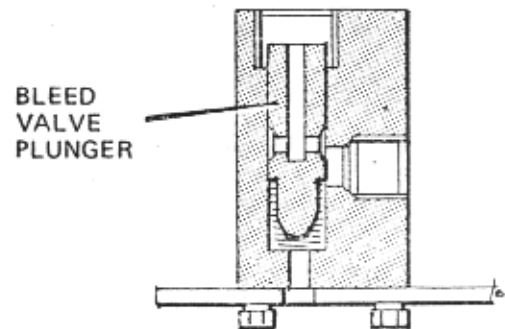

FIG. 14 BLEED VALVE
Bleed Valve Fig. 14
7. If gauge is sluggish, or fails to move up to zero from pre-set allowance. Check SAE of hydraulic oil. SAE 10 oil for temperatures up to 60°F (16°C) - SAE 20 oil for temperatures between 60°F and 90°F (16°C) and (32°C) - SAE 30 oil for temperatures above 90°F (32°C). Top up system as necessary using an oil of correct grade as noted above. Do not mix different brands of oil. The bleed valve plunger (Ref. 12 Group E5) will not open if incorrect grade is used, see Fig. 14 Also check bleed valve plunger opens fully.